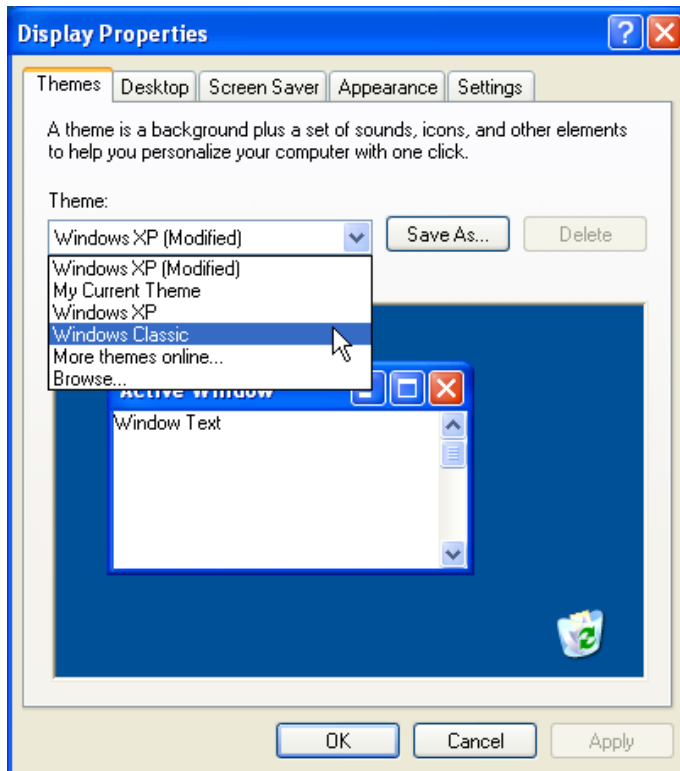

Figure 6
4. When the **Properties** screen opens, it defaults to the *Themes* tab. From this window, select the Windows Classic Theme from the drop down list. Click **Apply** and then click **OK**. The new setting will take effect immediately and the **Properties** window will close. See Figures 6 through 8.